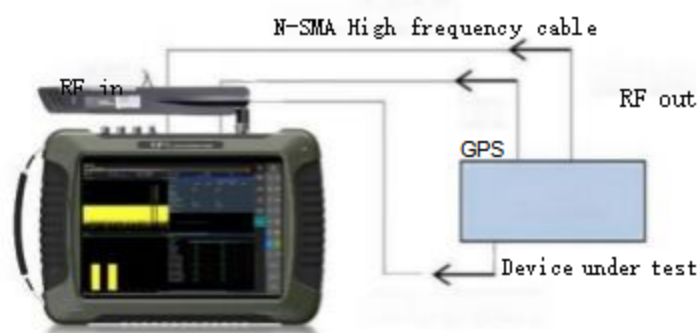

Figure 8.2 Parameter setting diagram
- In the [Signal Description] property page, select the test template: E-TM 1 _ 1 __ 10 MHz, and the setting interface is shown in Figure 8.2: